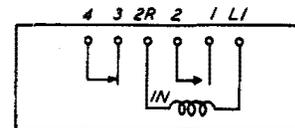

Fig. 113 - Winding and Spring Terminal Arrangement as Viewed From Rear (terminal side) — 1- and 2-Type Timers
4.19 The contact springs are numbered consecutively from left to right facing the contact side of the timer and from right to left facing the terminal side. Balancing springs (springs not equipped with contacts) are not numbered. (See Fig. 113.)